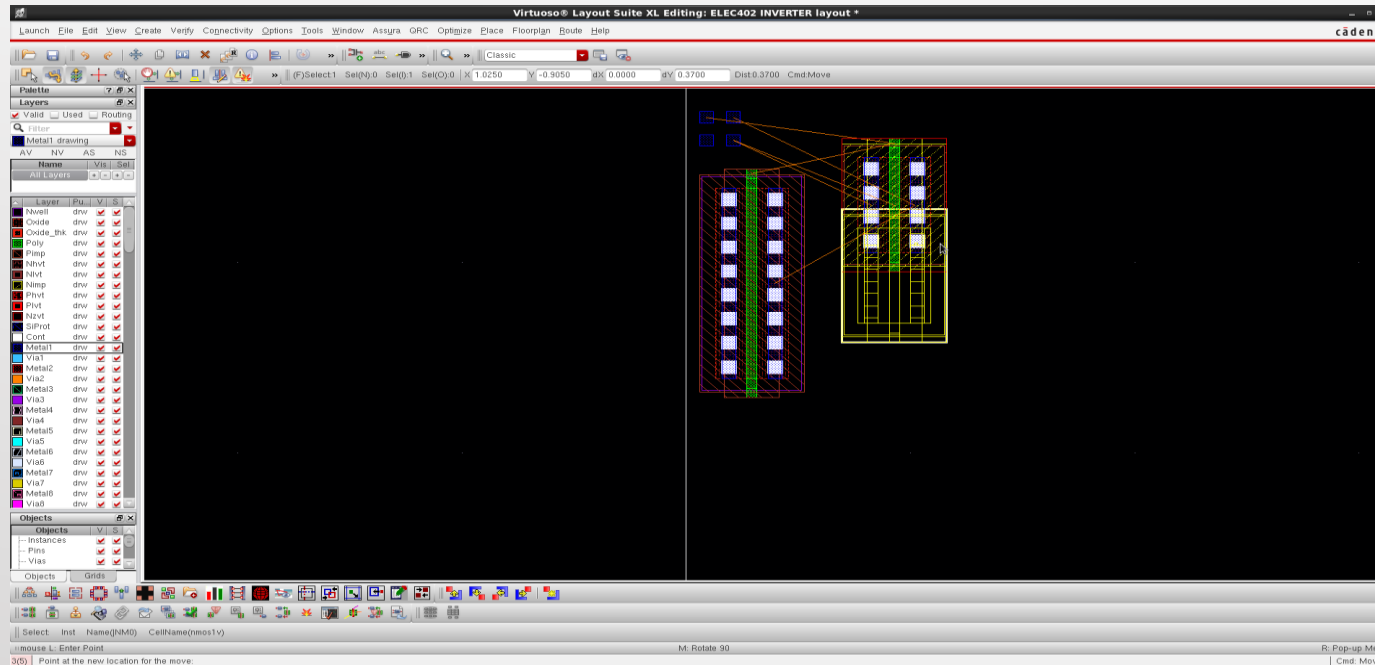

Figure 5 Moving sub-cells
- Start moving stuff around to match your floorplan. Note that virtuoso assists you by showing virtual connections between nodes as shown in Figure 5. Also, when selecting a sub-cell in the layout editor, note that it will be automatically selected in the schematic editor. To draw a ruler press <K>. To erase all rulers press <Shift+K>.